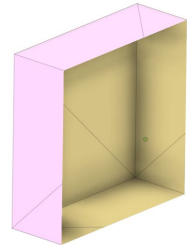

Figure 1.2
- **3D Meshes:** Represent surfaces made up of connected triangles, similar to a paper-mâché shell. Meshes are used for 3D printing or visualization, where only the external surface matters (see Figure 1.2).